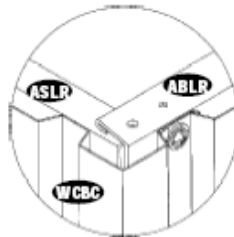

Fig.2
21. Place the wall panel (WSC) on the base bar and secure with (S1) screws with washers to base bar & top angle. Use (S3) bolt and nut with washer to join together in middle of the wall panel. See fig. 2.